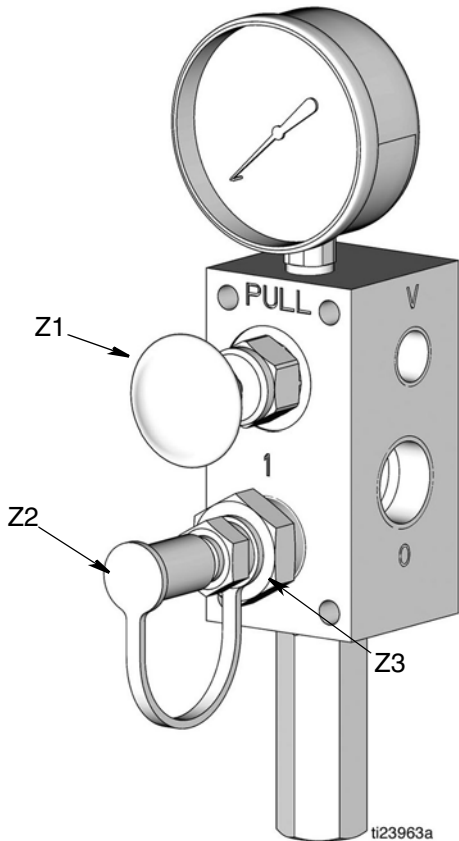

FIG. 18
3. Remove yellow dust cover (Z2) from fill coupler (Z3) (FIG. 18).
4. Connect refilling line (AA) between the remote filling stations pump (P) and fill coupler (Z3) port marked with an "I" (FIG. 18).
5. Start remote filling station pump (P).
6. When reservoir (K) is filled:
- the Remote filling station pump (P) stalls (dead-heads),